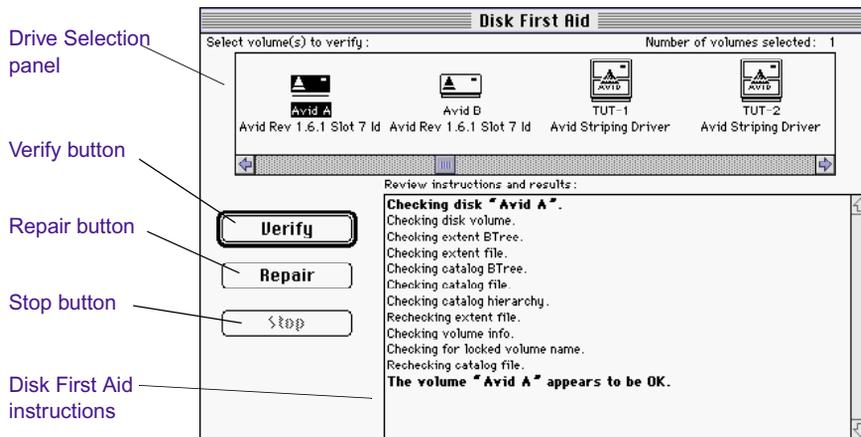

Figure 38 Disk First Aid Main Window Functions
2. Double-click the Disk First Aid icon to start the application. The Disk First Aid window opens (see Figure 38). This window contains all the necessary controls for you to run Disk First Aid.